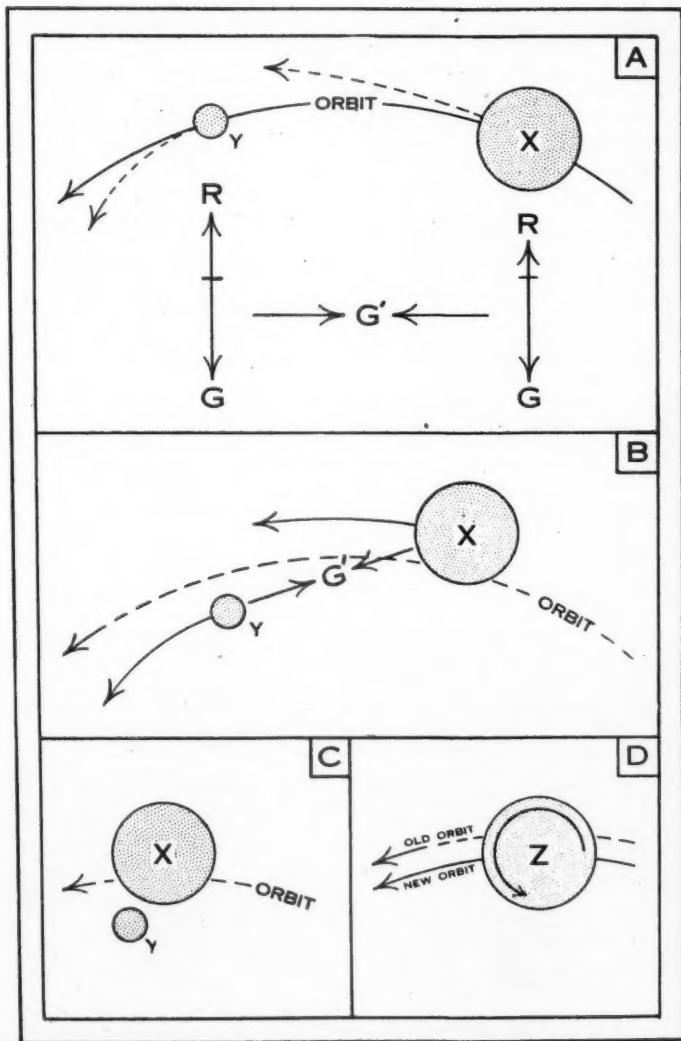

Fig. 6. Summary mechanics of a collision between two co-orbital bodies in a stellar environment. This figure is not to scale.
If the two bodies are not of the same size, and one of them is quite small, so that the influence of radiation pressure is appreciable, it will tend to be overtaken by the larger body, which must travel the orbit faster to maintain its position relative to the star. Mechanics of such a collision is outlined in Fig. 6. In A, the two bodies, X and Y, which occupy the same orbit, are shown some distance apart. The relative effects of gravitation (G) and radiation pressure (R) upon each are indicated by the bar scales beneath the bodies. Body X, having a mass relatively large with respect to its cross-sectional area, is relatively less subject to radiation pressure, and has a
Relations of the two bodies after mutual attraction has operated for some time are shown in Fig. 6, B. Because of the change in orbital velocities resulting from mutual attraction, the overtaken body will always collide with the faster-moving overtaking body at some point sunward of center, as is indicated in Fig. 6, C.
Unless the two bodies are not only perfectly elastic, but have truly smooth surfaces, such a collision will impart a direct rotation to the overtaking body, and will reduce its orbital velocity, causing it to seek a slightly smaller orbit, as in Fig. 6, D. If the overtaken body bounces off, it will, at least temporarily, be driven inward; and may eventually attain a new
If, however, the two colliding bodies combine into a new body, Z (Fig. 6, D) the mass of the new body will be the sum of the masses of the two components, and the volume of the new body will be the